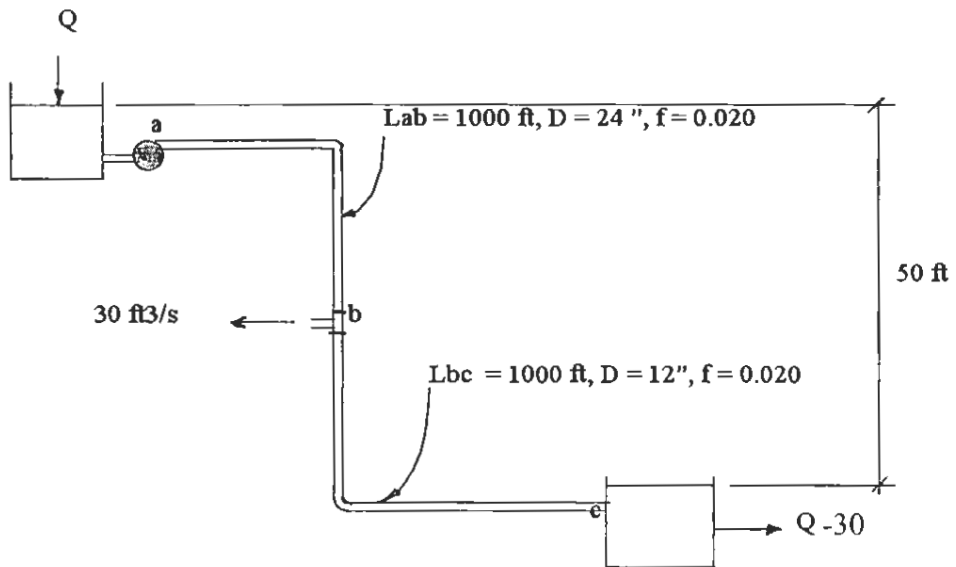

Fig. 2. Problem 3
3. Calculate and draw the system head curve for the system shown in Fig. 2 neglecting minor losses. Use Darcy's formula to compute friction losses.